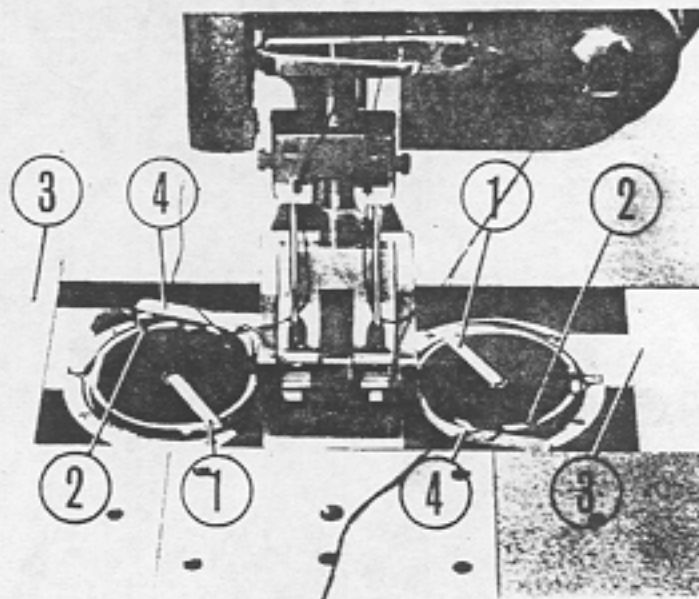

Fig. 8
Hold the bobbin between the thumb and forefinger with the thread drawing on the bottom from left to right and place it on the center stud of the bobbin case, then push down the latch (1), Fig. 8.
Open up the sliding plate and take out the throat plate, feed dog, and the bobbin case opener (Fig. 8 (4)).